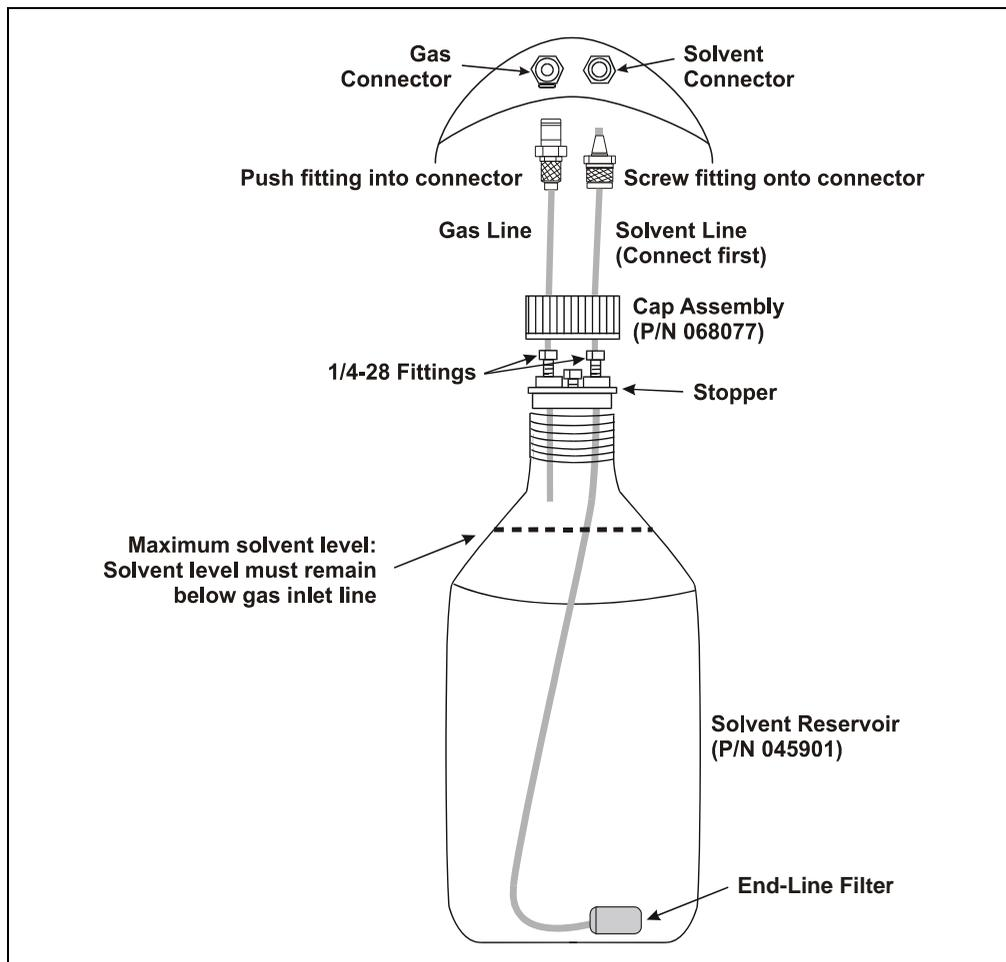

Figure 3-1. Solvent Reservoir Connections
Never fill the solvent reservoir or disconnect the tubing connections to the solvent and gas connectors (see Figure 3-1) during a run or rinse cycle. At these times, the solvent reservoir is pressurized. If you remove the cap when the reservoir is pressurized, the Dionex ASE 350 may not operate to specification.
1. Fill the solvent reservoir (P/N 045901) with prepared solvent to the level indicated in Figure 3-1.
3. Insert the solvent line extending from the underside of the reservoir cap assembly into the reservoir (see Figure 3-1). Make sure the end-line filter rests on the bottom of the reservoir.